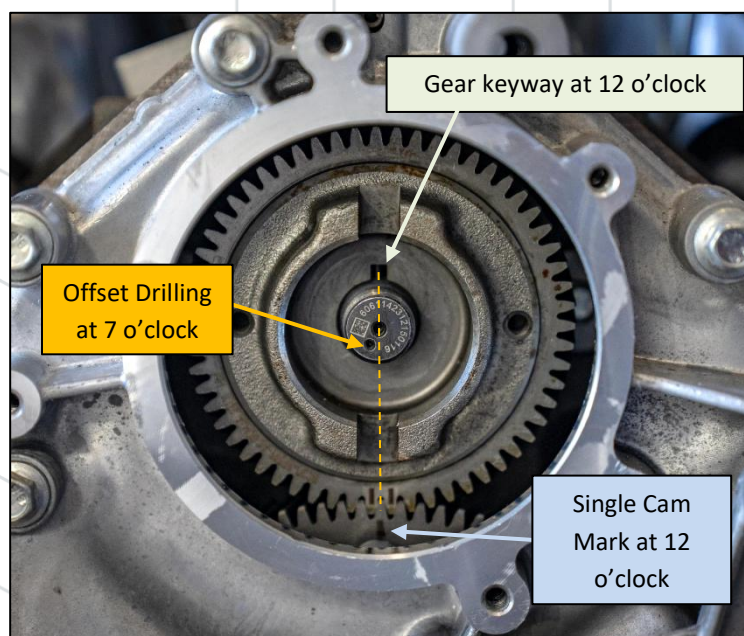

Figure 27: DCR Fuel Pump Timing
- i. If the roll pin gets pushed into the shaft due to misalignment during gear install, set the Offset drilling to 7 o'clock as shown in Figure 27. The Morse Taper between the gear and the pump shaft carries 100% of the torque load, not the roll pin. The roll pin is an assembly aid for pump timing and is not required to transmit the drive load.